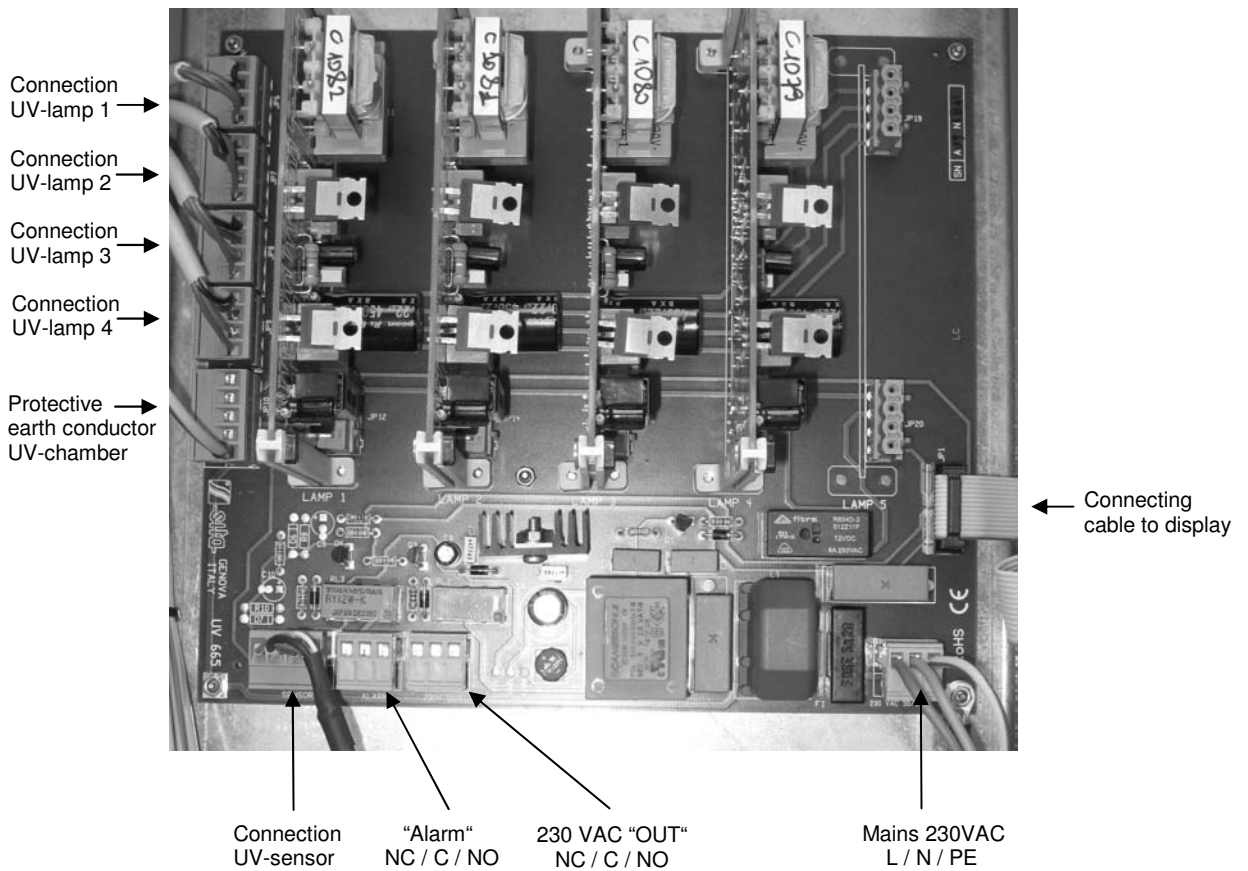

Fig. 9: electrical connection (here JUV 140 GS)
2. Equip the free cable entries with screwed cable glands, lead the connecting cables for the shut-off solenoid valve respectively output signal for alarm through the screwed cable glands and connect them professionally according to the terminals (see fig. 9).